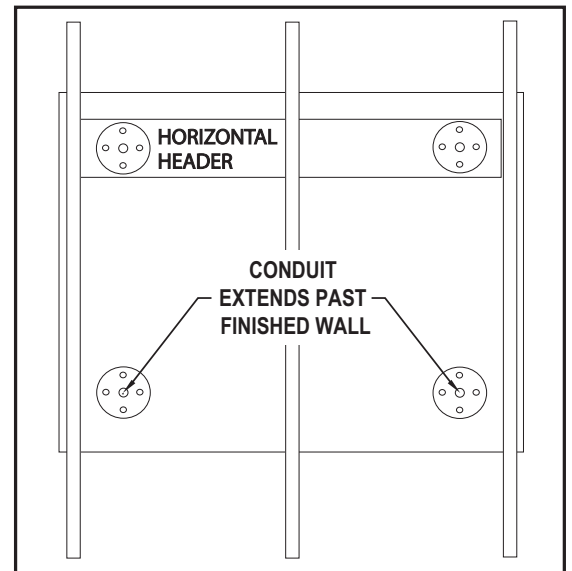

Figure 3
- A. Using (Fig 1) as your guide, locate and secure the top Mounting Brackets to the horizontal header using the (8) round slotted wood screws provided (Fig 3). The screws should protrude a minimum of 1" into the header. Use suitable replacement screws if the screws provided are not long enough.